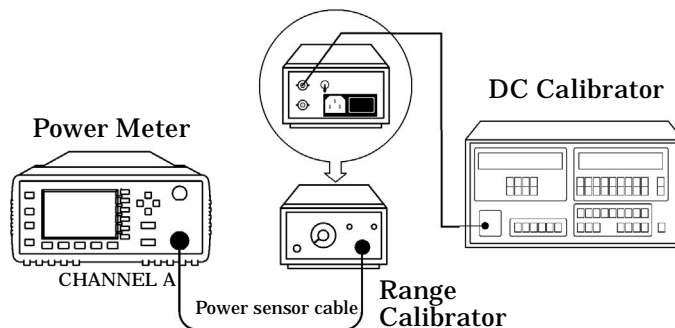

Figure 2-4: Instrument Accuracy (Average Path) Test Setup
1. Connect the equipment as shown in Figure 2-4.
3. Figure 2-4 shows the HI/LO outputs of the DC calibrator connected to the DC reference input of the range calibrator. Ensure that the Guard and LO output of the DC calibrator are floating, and are not connected to the earth ground.